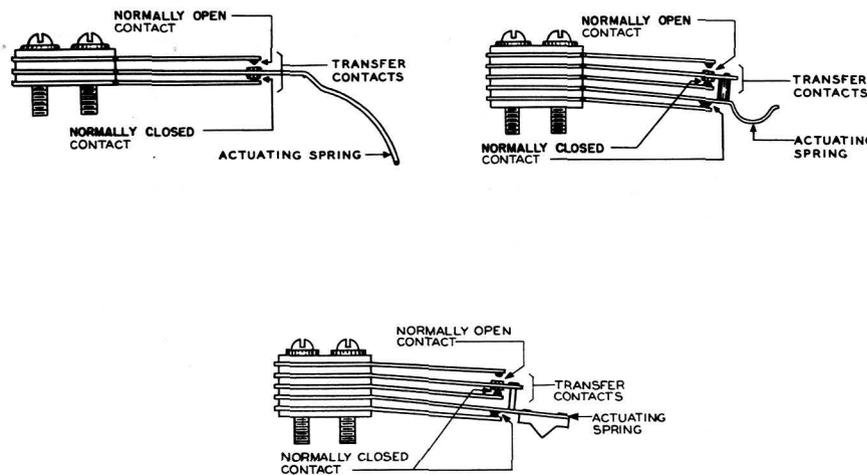

Fig. 6—Typical Interrupter Spring Packs
2.20 Interrupter Contacts and Springs (Fig. 6)